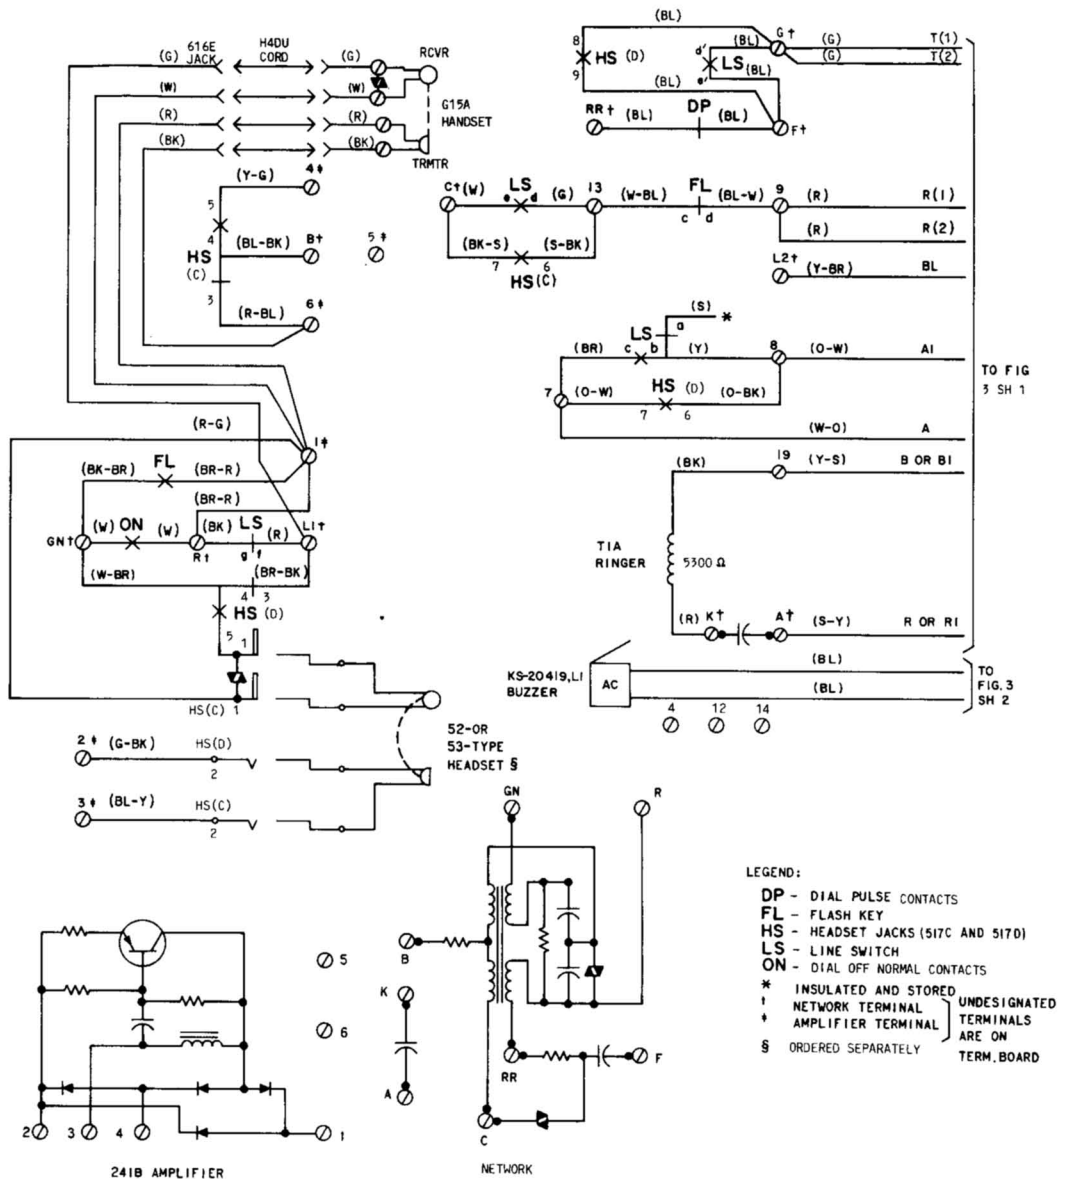

Fig. 2 - 636CAMS and 637DAMS Telephone Set, Connections
1.04 The 636CAMS1 and 637DAMS1 sets (Fig. 2) are furnished equipped with a new line switch which breaks both the tip and ring side of the line instead of the ring side only.♦